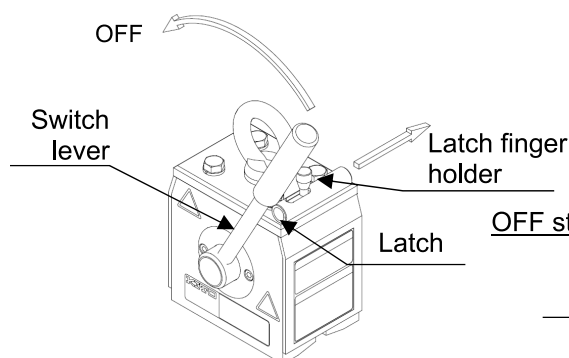

Figure 10-3 KRD8, KRD16
- (8) Lower the load to the ground only after confirming safety of the surrounding area.
(9) Confirm complete grounding before releasing the latch lock. Grip the switch lever and conduct the following operation.
- KRD8, KRD16: Put a finger into the latch finger holder and press the latch toward the main body side (Figure 10-3).